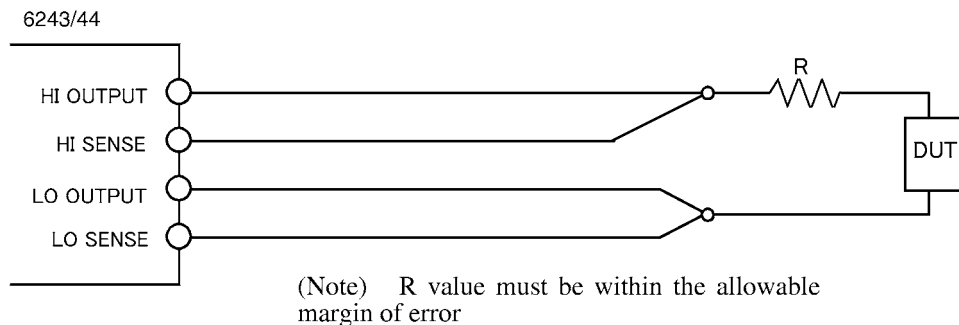

Figure 4-6 SMU Oscillation Prevention
4. If the shortest connection leads(s) do not stop oscillation, insert an allowable resistor to the load as shown in Figure 4-6.